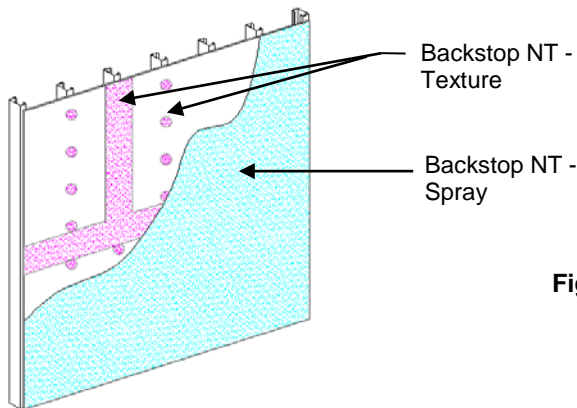

Figure 18
- 1) Backstop NT - Spray material should be applied in a uniform, continuous film at the recommended coverage rate free of voids and pinholes – Figure 18. **NOTE: Sheathing substrates with a surface texture or high porosity will require additional material.**